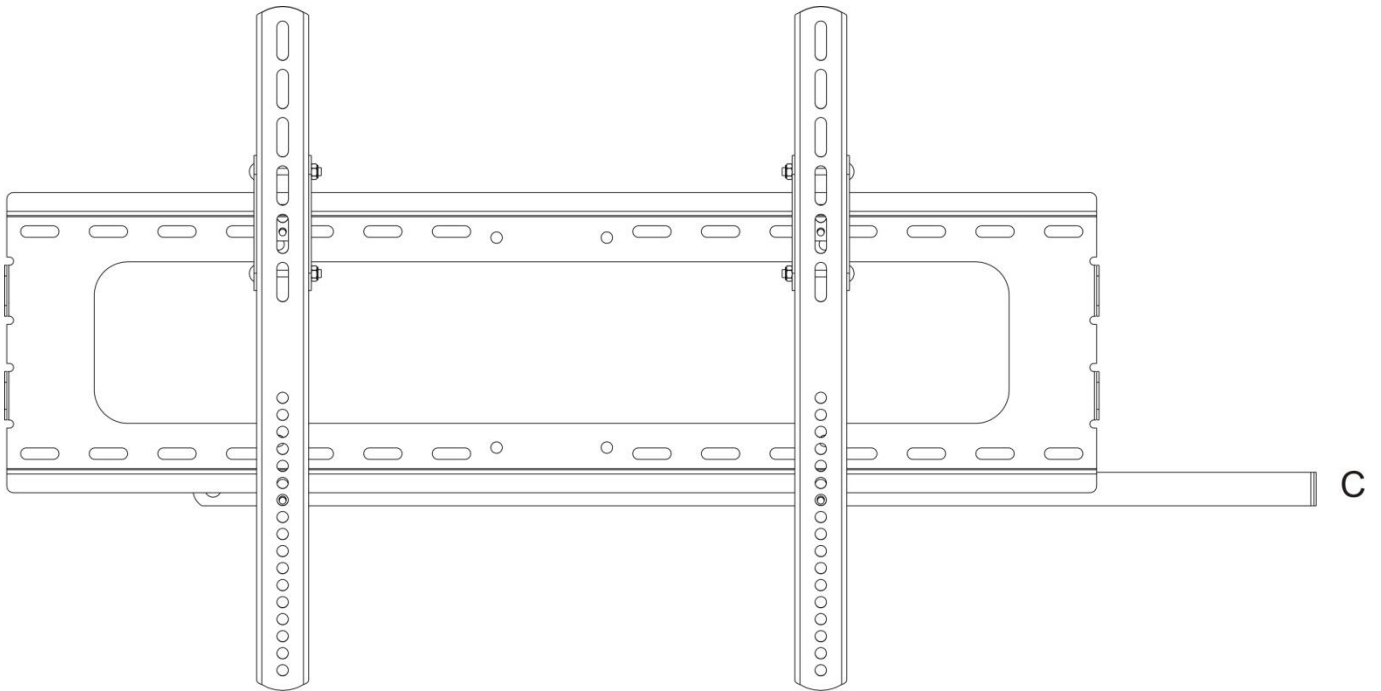
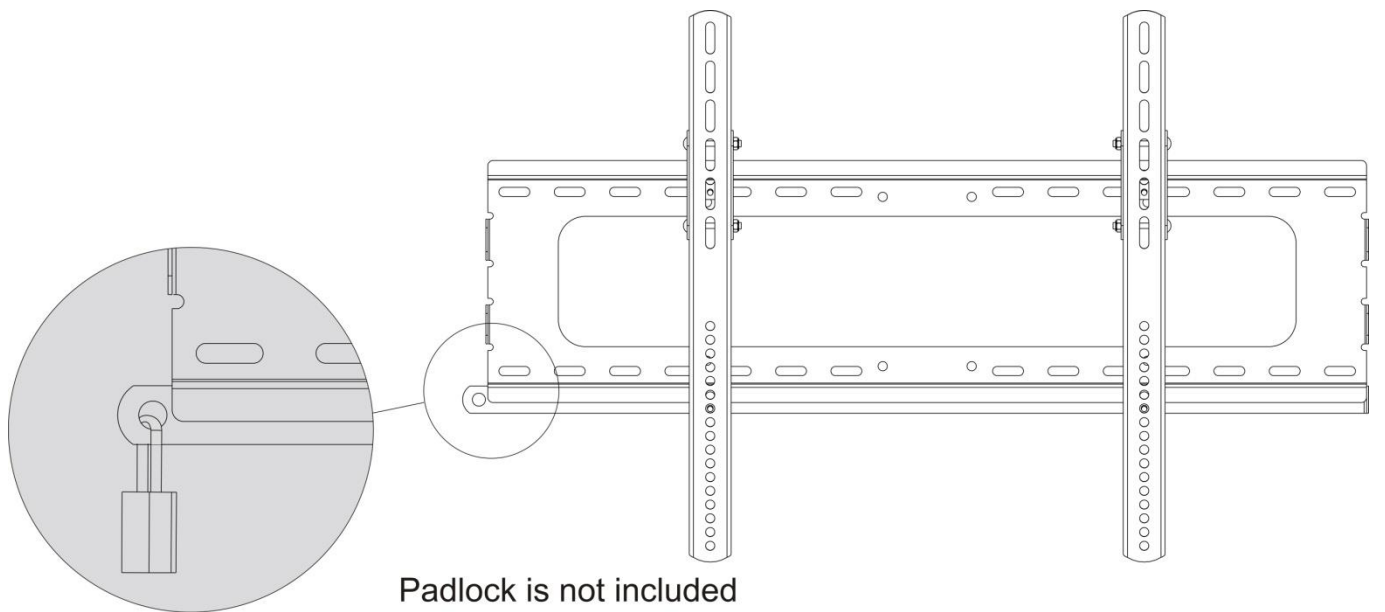

Fig. 09
Fig. 10
- Insert the safety bar (C) to secure the rails. Use a padlock to lock the TV screen into place. For a better overview and more clarity, the TV screen is not shown in Fig. 09 and Fig. 10.